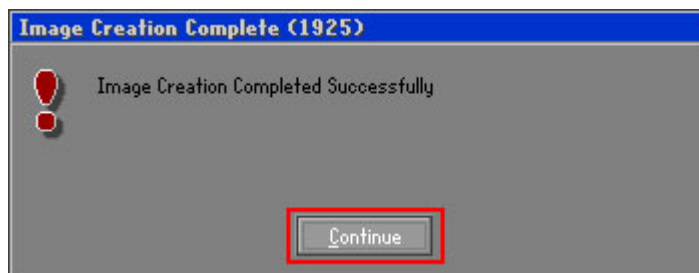

Figure B-20: Image Creation Complete
Step 11: When the image creation completes, a screen prompts as shown in Figure B-20.